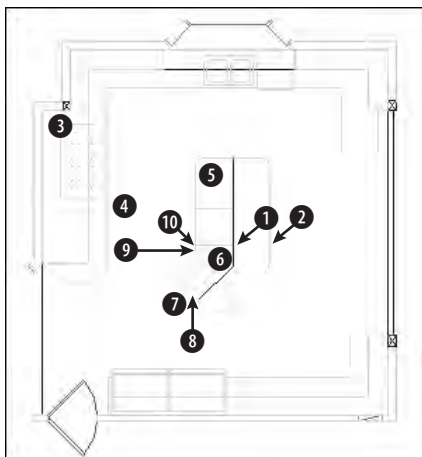

Figure 9-20: A kitchen floor plan
1. Open `ab09-f.dwg` from the CD-ROM, as shown in Figure 9-20.
3. Draw a line from ❶ to ❷ in Figure 9-20. You will use this later to illustrate the Last selection option.
5. To select the six-burner stovetop, pick a point near ❸, being careful that the pickbox at the intersection of the crosshairs doesn't touch any object. Transparently zoom in and back out if necessary. Then move the mouse to ❹ and pick again. The objects chosen appear dashed to indicate that they have been selected.
10. Turn on OSNAP. Start the MOVE command. At the **Select objects:** prompt, type **p** ↵ and then press Enter again to end object selection. At the **Specify base point or displacement:** prompt, pick the endpoint at ⑨ in Figure 9-20. At the **Specify second point of displacement or <use first point as displacement>:** prompt, pick the endpoint at ⑩. AutoCAD moves all the objects.